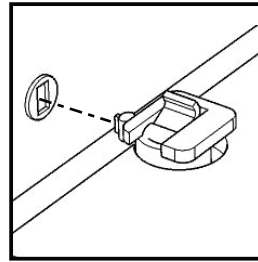

Figure 1
Attach Side Panels (C) and (D) to Back Panel (G), then flip the Locks. (See Figures 1 and 2)